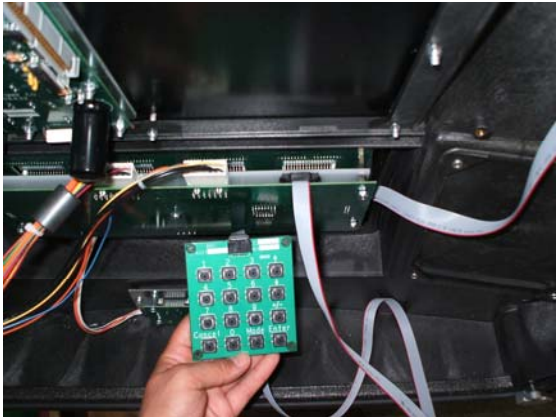

Figure P2
2. Locate the keyboard receptacle located on the product select keyboard, which is located on the backside of side 1 electronic door. The plug receptacle is labeled "Keyboard" and is located on the right side of the product select keyboard. (See Figure P2)